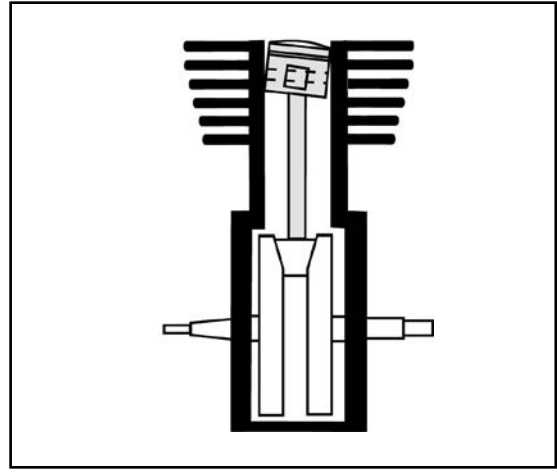

Figure 4
4. Move piston towards driveside of engine and repeat Step C. If inaccuracies are present due to machining variations in cases, cylinders or pistons, top land of piston deck will appear closer to cylinder wall at one point around circumference. This means that piston is cocked in cylinder bore and can be corrected by bending rod in opposite direction. **Figure 4** shows an exaggerated side view of this condition.